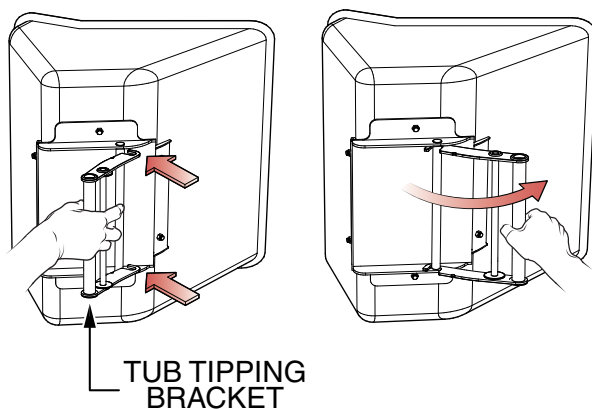

Figure 28. Tipping Bracket Orientation
3. Orient the tub tipping bracket to the base of the tub as shown in Figure 28.